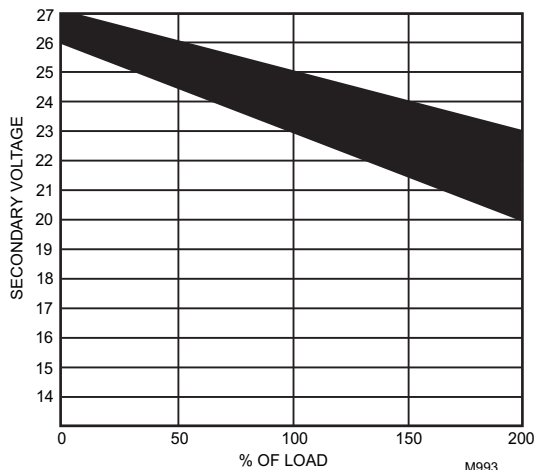

Fig. 3. NEMA Class 2 transformer voltage output limits.
This means that four volts are going to be lost between the transformer and the device. To assure the device receives at least 20 volts, the transformer must output more than 24 volts. Because all transformer output voltage levels depend on the size of the connected load, a larger transformer outputs a higher voltage than a smaller one for a given load. Fig. 3 shows this voltage load dependence.
In the preceding $I \times R$ loss example, even though the device load is only 37 VA, a standard 40 VA transformer is not sufficient due to the line-loss. Looking at Fig. 3, a 40 VA transformer is just under 100 percent loaded (for the 37 VA controller) and has a secondary voltage of 22.9 volts. (Use the lower edge of the shaded zone in Fig. 3 that represents the worst case conditions.) When the $I \times R$ loss of four volts is subtracted, only 18.9 volts reaches the device. This is not enough voltage for proper operation.
1. Use a larger transformer. For example, if an 80 VA model is used, an output of 24.4 volts, minus the four volt line-loss, supplies 20.4V to the device (see Fig. 3). Although acceptable, the four-volt line-loss in this example is higher than recommended.
To meet the National Electrical Manufacturers Association (NEMA) standards, a transformer must stay within the NEMA limits. The chart in Fig. 3 shows the required limits at various loads.